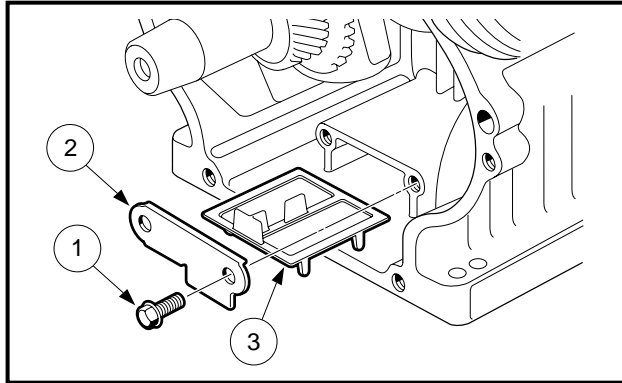

Figure 13-88 Oil Screen Removal
1. Remove the two bolts (1) to take out the oil screen plate (2) and the oil screen (3) (**Figure 13-88, Page 13-41**).